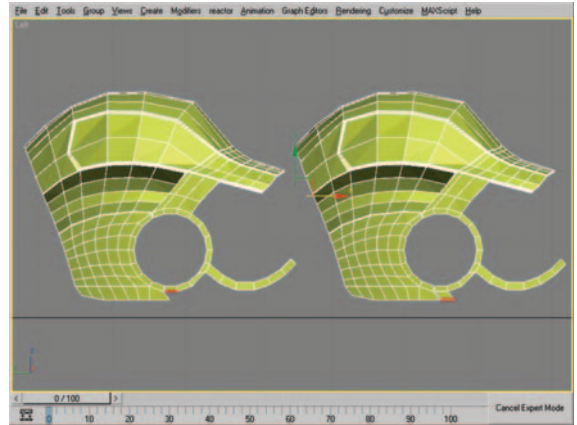

Figure 8.52 Edge selection (left) and result after shift-dragging the edge (right).
53. In the left viewport, select the edge shown in Figure 8.52 (left) and shift-drag it down to line up with the bottom of the existing mesh (Figure 8.52, right).